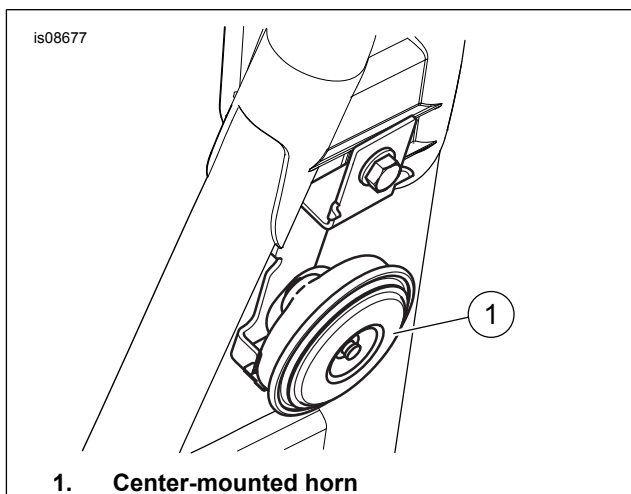

Figure 1. Center-Mounted Horn
1. See Figure 1. **Models with a center-mounted horn:** Install horn bracket adapter kit per instructions in that kit.